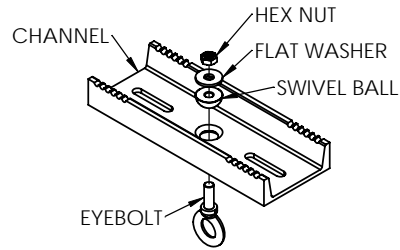

FIGURE 1
1. ASSEMBLE THE CHANNEL, EYEBOLT, SWIVEL BALL, FLAT WASHER AND HEX NUT. MAKE SURE TO LEAVE A GAP OF 1/2" BETWEEN THE EYEBOLT AND THE SWIVEL BALL (FIGURE 1)